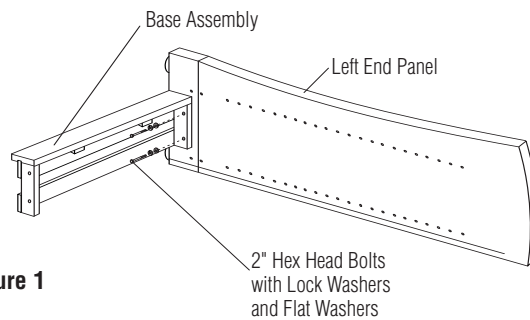

Figure 1
2. Align the side holes in the base assembly with the lower holes in the left end panel. Insert 2" hex head bolts with lock washers and flat washers into the base and end panel (Figure 1). Tighten.